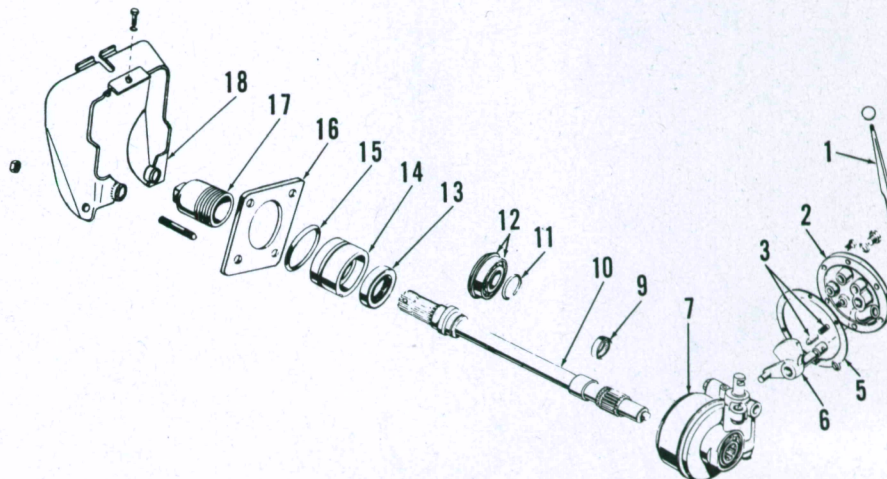

Fig. 246—Drawing of single speed independent pto output shaft (10), clutch (7) and associated parts used on some tractors.
**203. R&R AND OVERHAUL.** To remove pto output shaft (10—Fig. 246), rear seal (13) and bearing (12), first drain